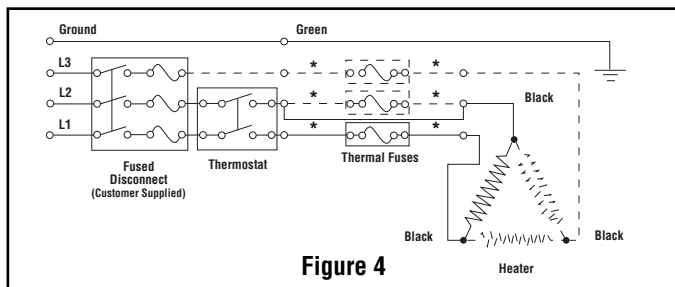

Figure 4
One Single phase heater or (3) single phase heaters equal in size and each having a thermal fuse wired as a 3 phase heater circuit using a DPST thermostat. Line voltage and current do not exceed thermostat or thermal fuse(s) rating (Figure 4). Dotted Line and L3 indicates 3 phase connections.